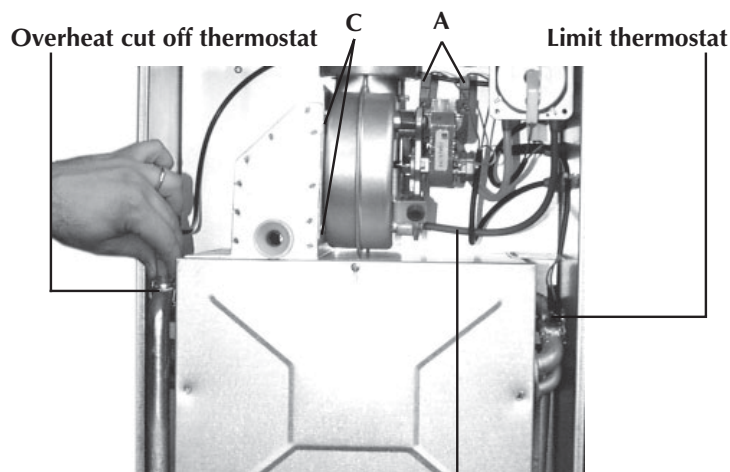

Fig. 33
7.10 Removal of fan (fig. 33)
7.11 Limit thermostat, or overheat cut off thermostat (fig. 33)
- Identify the location of thermostat from fig. 33